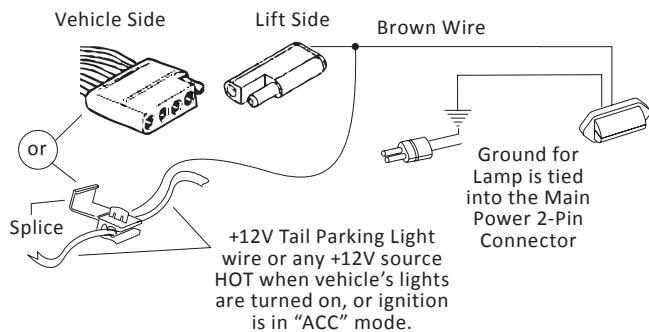

Figure 4-8
**NOTE:** The lift includes a standard two-contact trailer connector. Use this connector for the license plate lamp. If your vehicle is not equipped with the proper connector, use the brown wire to make a wire splice to the tail parking light to get the same result. *See Figure 4-8.*